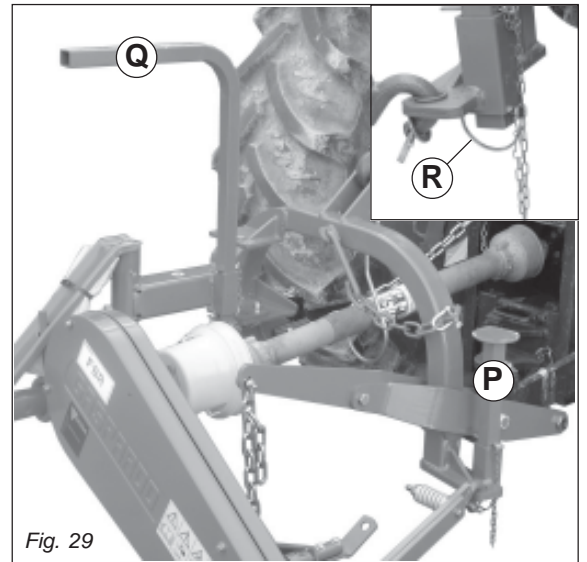

Fig. 29
- Remove the supports (P and Q, Fig. 29) and remount them, upside-down in their seat . Install spring locking pin in order to secure parking stand (R).